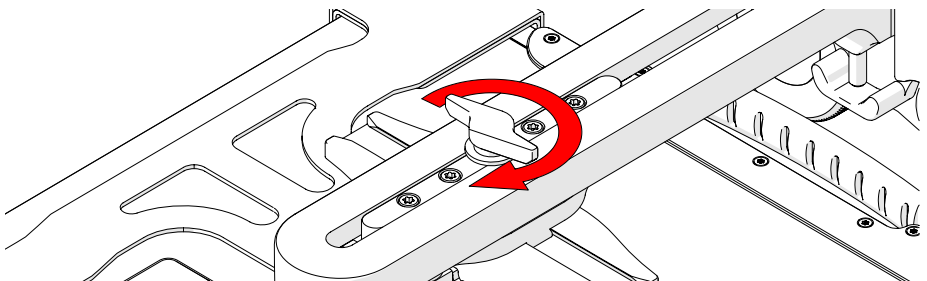

Fig. 56 - Tighten wing knob to lock position
2. Tighten the wing knob to lock the chosen detector position (*Fig. 56*).